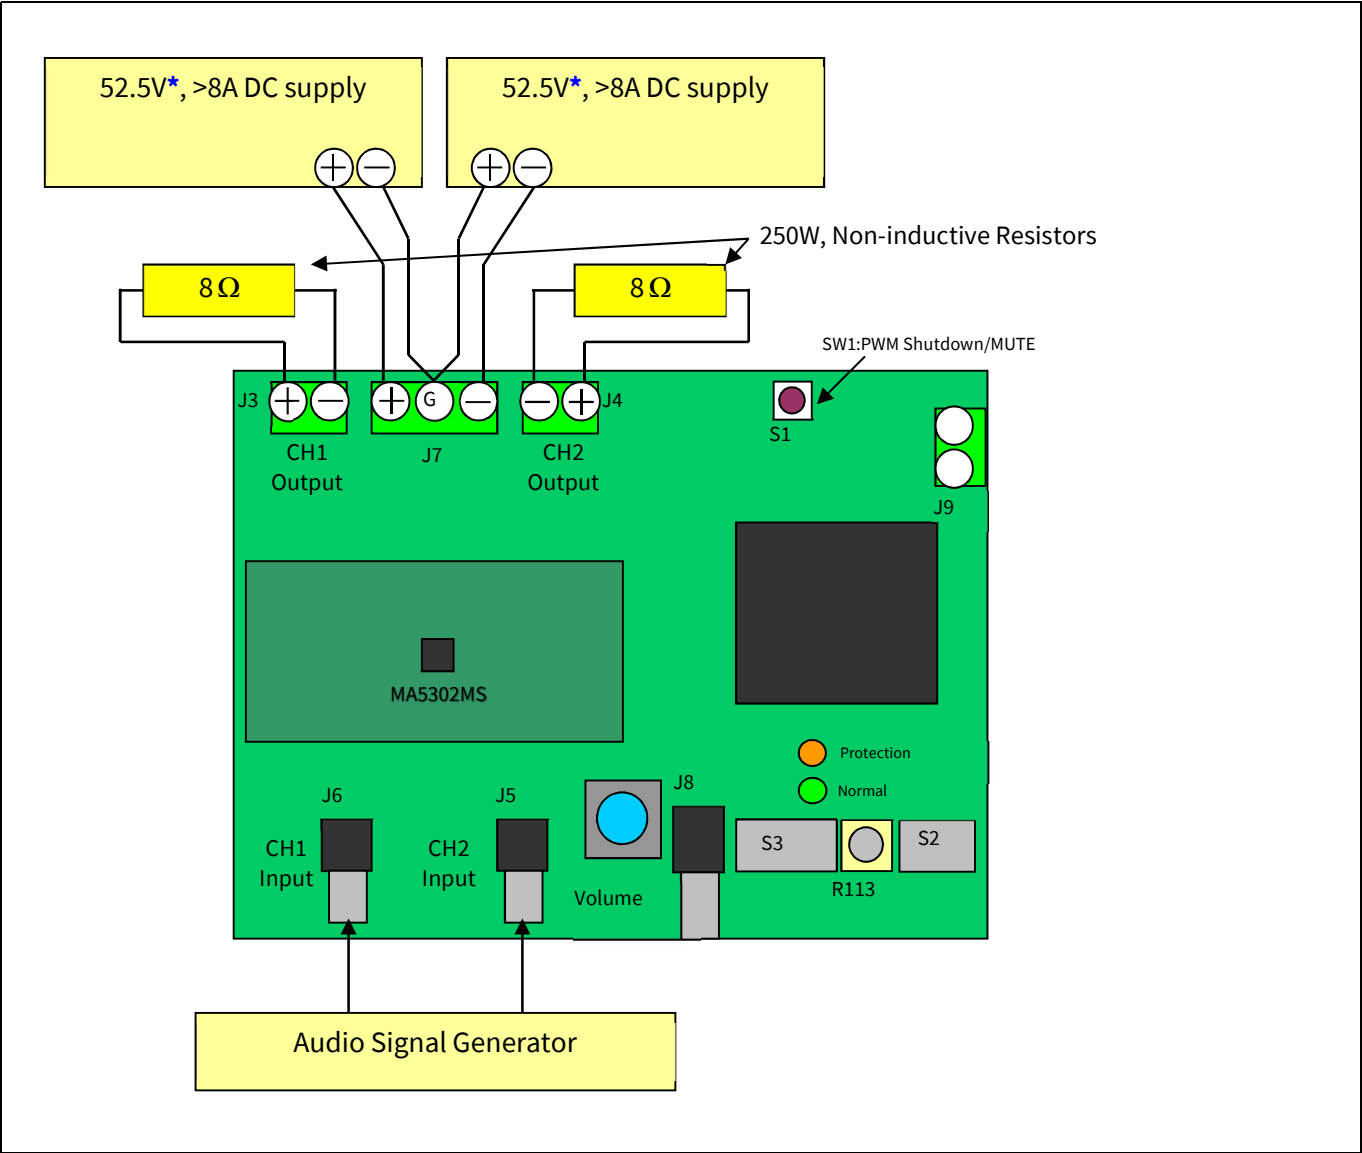
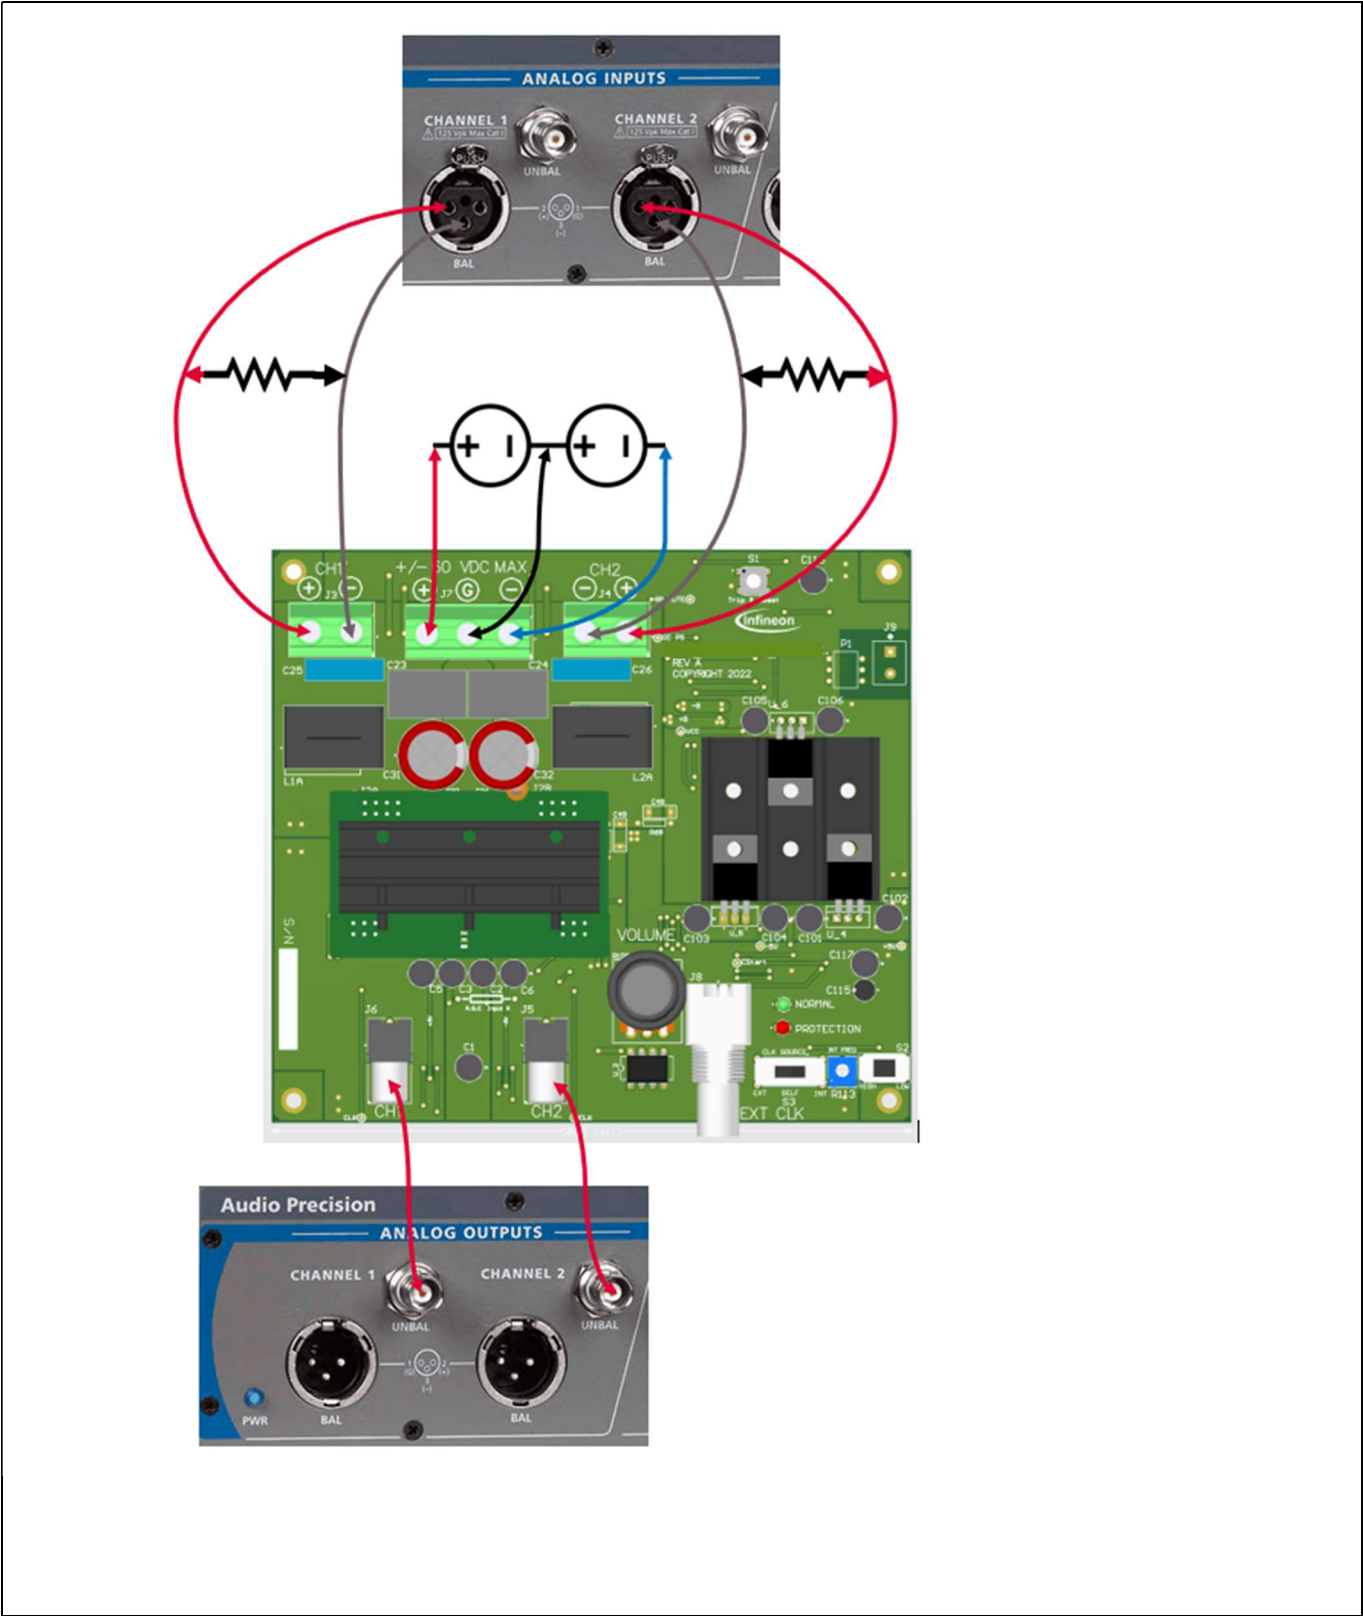

Figure 2 Typical connection connector description
Figure 3 Audio analyzer connection
1. Connect 8 Ω 250 W dummy loads to output connectors (J3 and J4 as shown in Figure 2) and parallel it with the input of the Audio Precision (AP) analyzer.
2. Connect the Audio Signal Generator (ASG) to J6 and J5 for CH1 and CH2 respectively (AP).
7. Connect the dual power supply to J7, as shown in Figure 2 or Figure 3